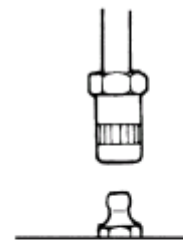

Fig. 7a
- 1) Wipe the grease nipple to be used for greasing cleanly. After that, push the chuck at the end of the grease gun against the nipple to perform chucking as vertically as possible. (Fig. 7a)